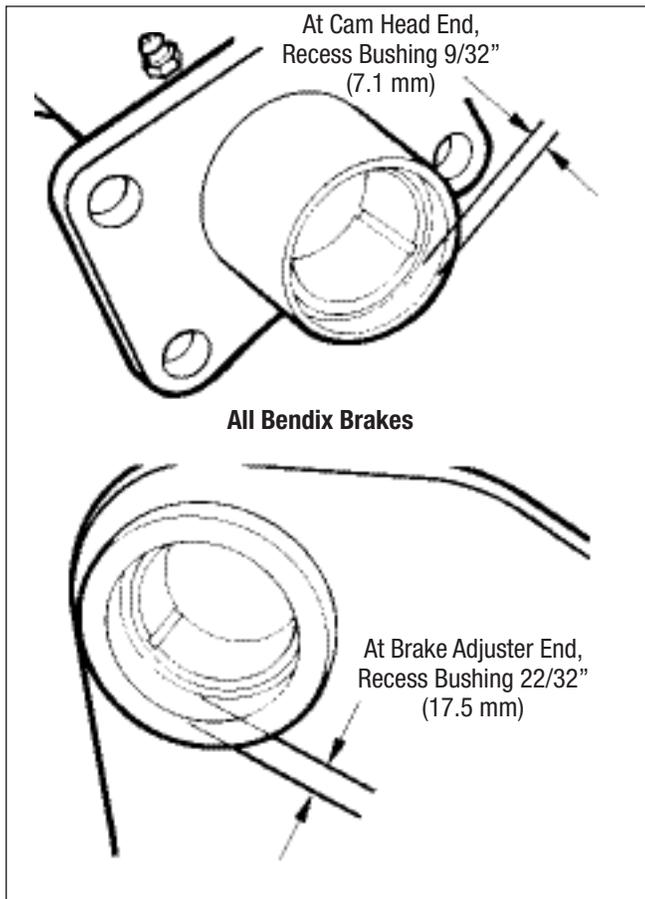

Figure 7 - Air Chamber Bracket Bushing Installation
4. Install new bushings in the air chamber bracket (Drive and Steer Axles) with a suitable piloted driver. For identification and installation specifications, refer to **Figure 7 and Table 3**.